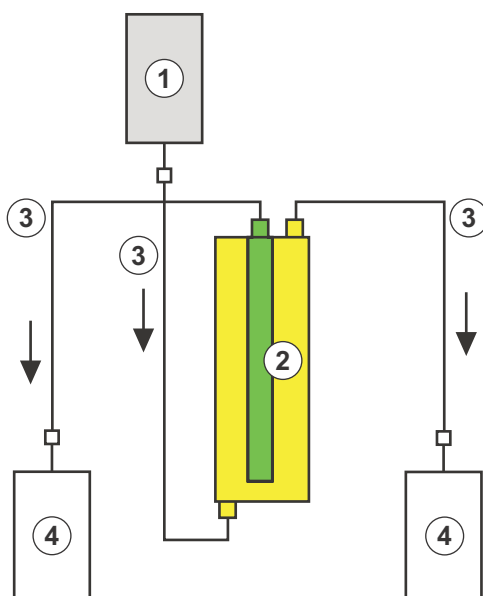

Fig. 9-9 Set-up for precipitate filter rinsing
Materials: See key to Fig. 9-9
2. Attach the remaining connection lines and the collection bags as shown in Fig. 9-9 with the upper precipitate and filtrate-side opening of the filter and clamp the line on the filtrate side.